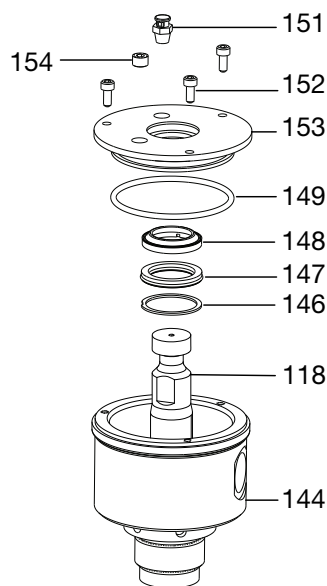

FIG. 43
36. Install new o-ring (149), wet cup wiper (148), seal (147), and snap ring (146) into wet cup cover (153). See FIG. 43.
37. Carefully slide wet cup cover (153) over displacement rod (118). Line up holes in cover and wet cup. Insert screws (152). Use a hex head screwdriver to tighten screws. See FIG. 43.